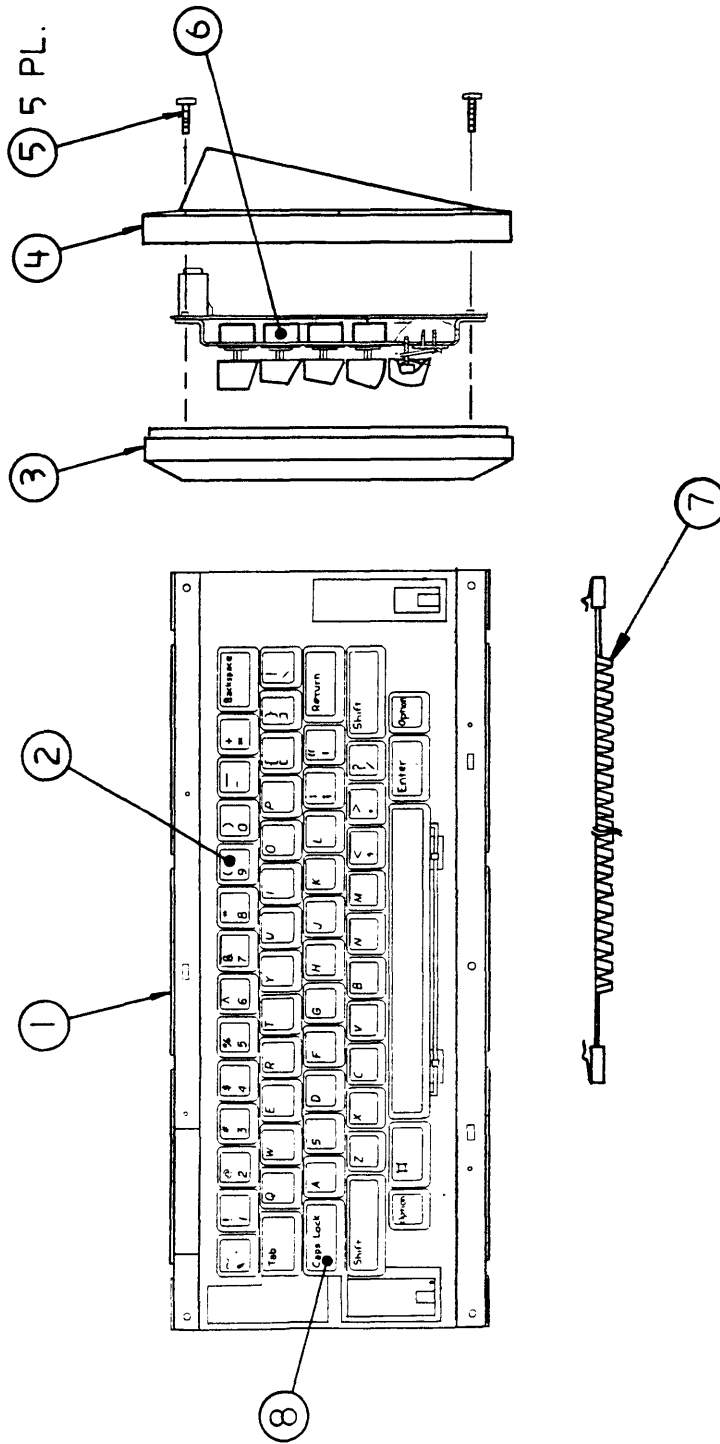

FIGURE 4
□ MACINTOSH—KEYBOARD ASSEMBLY (Figure 4)